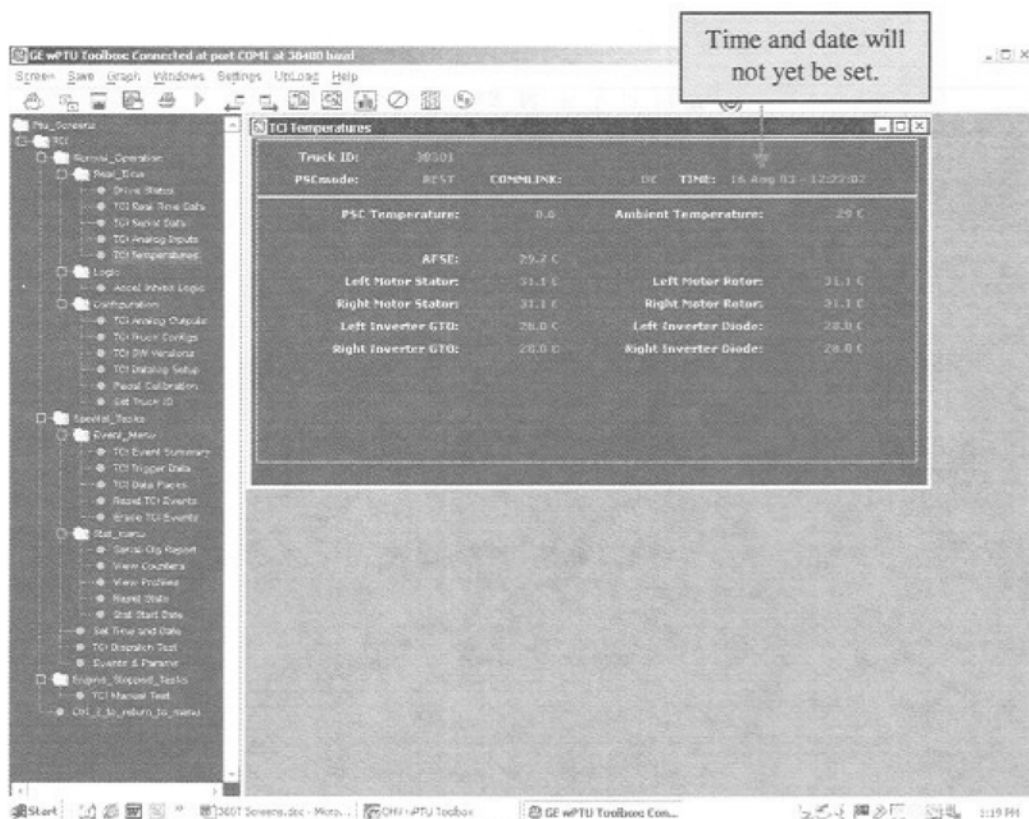

FIGURE 3-10. TCI TEMPERATURES SCREEN
- Verify that the temperature values are similar to the example in Figure 3-10.